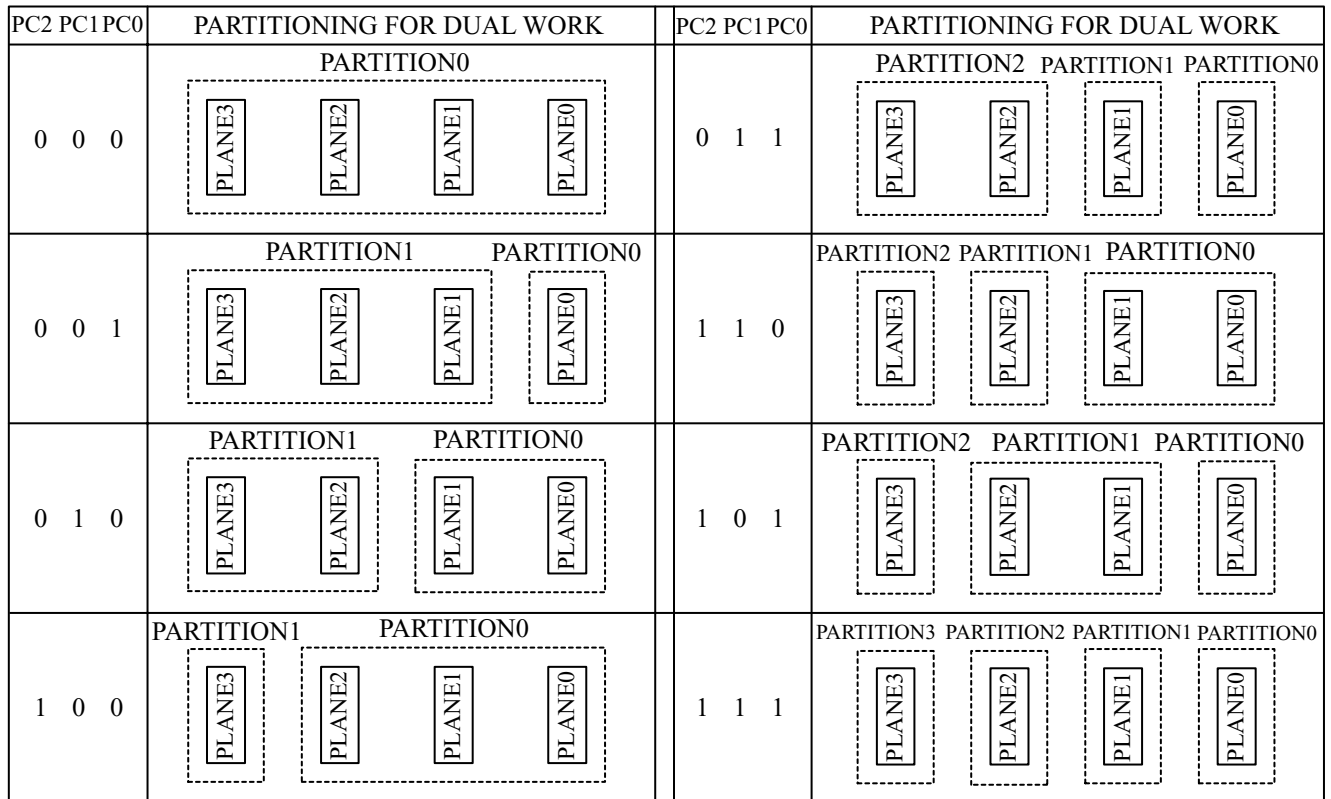

Figure 4. Partition Configuration
<p>PCR.15-11 = RESERVED FOR FUTURE ENHANCEMENTS (R)</p> <p>PCR.10-8 = PARTITION CONFIGURATION (PC2-0)</p> <p>000 = No partitioning. Dual Work is not allowed.</p> <p>001 = Plane1-3 are merged into one partition. (default in a bottom parameter device)</p> <p>010 = Plane 0-1 and Plane2-3 are merged into one partition respectively.</p> <p>100 = Plane 0-2 are merged into one partition. (default in a top parameter device)</p> <p>011 = Plane 2-3 are merged into one partition. There are three partitions in this configuration. Dual work operation is available between any two partitions.</p> <p>110 = Plane 0-1 are merged into one partition. There are three partitions in this configuration. Dual work operation is available between any two partitions.</p> <p>101 = Plane 1-2 are merged into one partition. There are three partitions in this configuration. Dual work operation is available between any two partitions.</p>	<p>111 = There are four partitions in this configuration. Each plane corresponds to each partition respectively. Dual work operation is available between any two partitions.</p> <p>PCR.7-0 = RESERVED FOR FUTURE ENHANCEMENTS (R)</p> <p>NOTES: After power-up or device reset, PCR10-8 (PC2-0) is set to "001" in a bottom parameter device and "100" in a top parameter device.</p> <p>See Figure 4 for the detail on partition configuration.</p> <p>PCR.15-11 and PCR.7-0 are reserved for future use and should be masked out when checking the partition configuration register.</p>